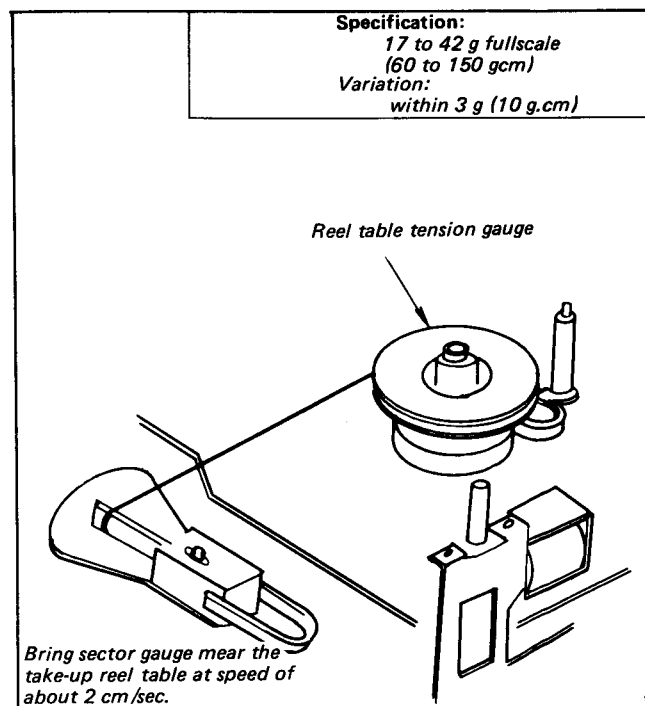

Fig. 3-17. Check of Take-up Torque
- (6) Set up the PLAY mode.
- (7) Bring the sector type gauge toward the tape-up reel table at a speed of approximately 2 cm/sec (8 inches/sec) as shown in Fig. 3-17. Confirm that the gauge reading is within the specification.